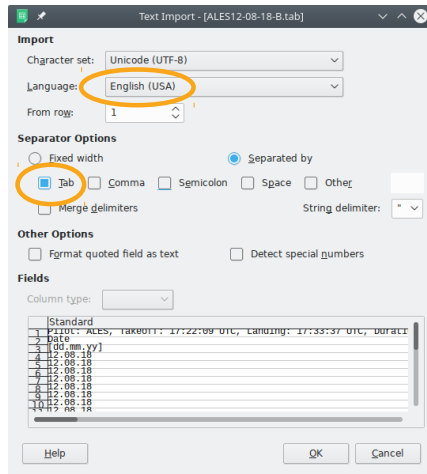

Figure 46: An example of Calc Text Import window.
5. Calc detects that a text file is being imported and it opens a window as shown on Figure 46. Please make sure that the *Tab* option is selected